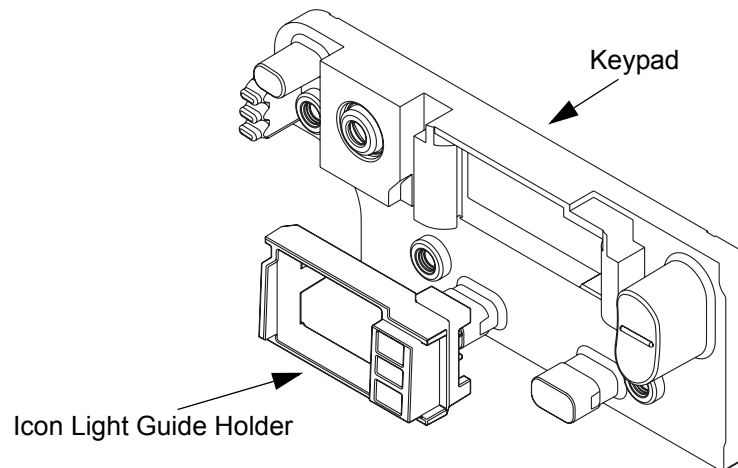

Figure 5-32 Icon Light Guide Holder Assembly
1. Place the icon light guide holder into the keypad. Refer to Figure 5-32.